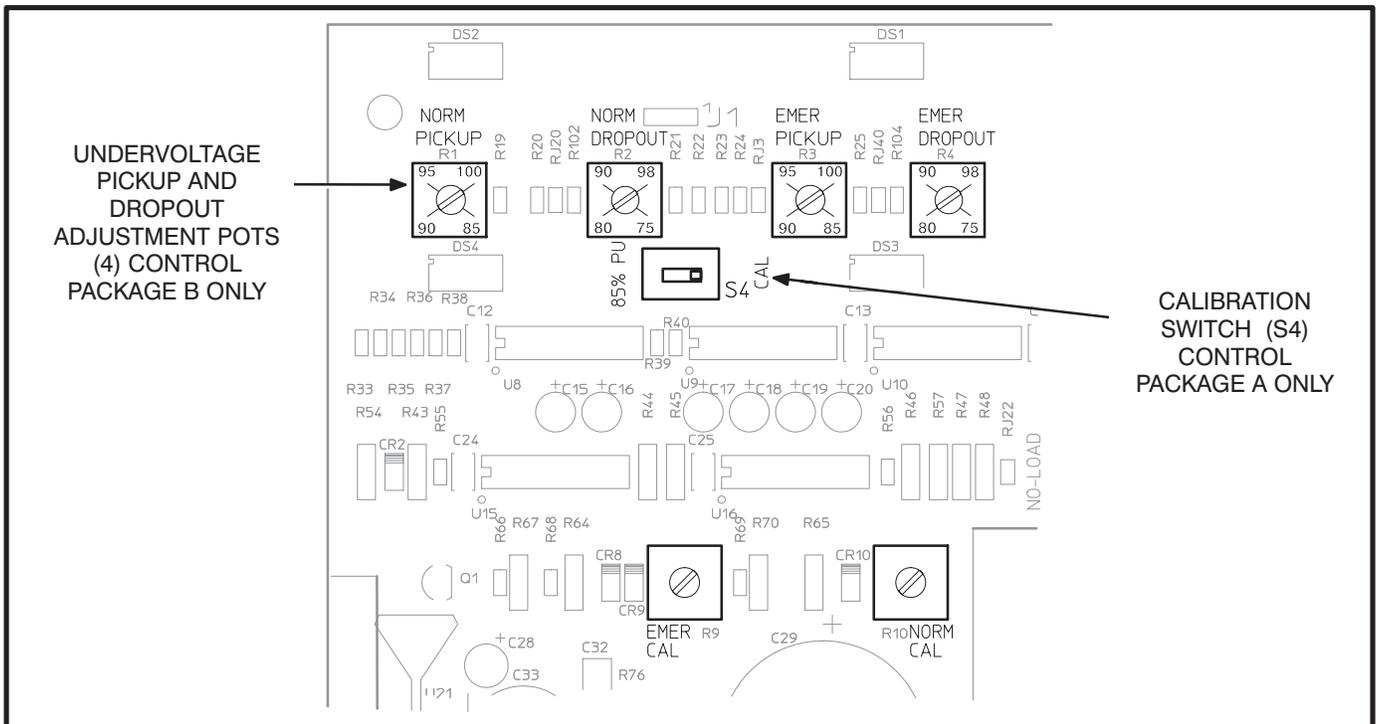

FIGURE 4-3. UNDERTOVOLTAGE CALIBRATION, PICKUP AND DROPOUT ADJUSTMENT
A separate voltage sensor is used for each power source. The adjustment pot locations are shown in Figure 4-3. The Normal sensor monitors the Normal (utility) power source. The Emergency sensor monitors the Emergency (generator set) power source.
2. *Control Package A:* Move the calibration switch (Figure 4-3) to the CAL position.
Control Package A: Move the calibration switch (Figure 4-3) to the 85 % position.
To set the pickup and dropout percentages, align the slots on the potentiometers with the desired markings as shown in Figure 4-3).